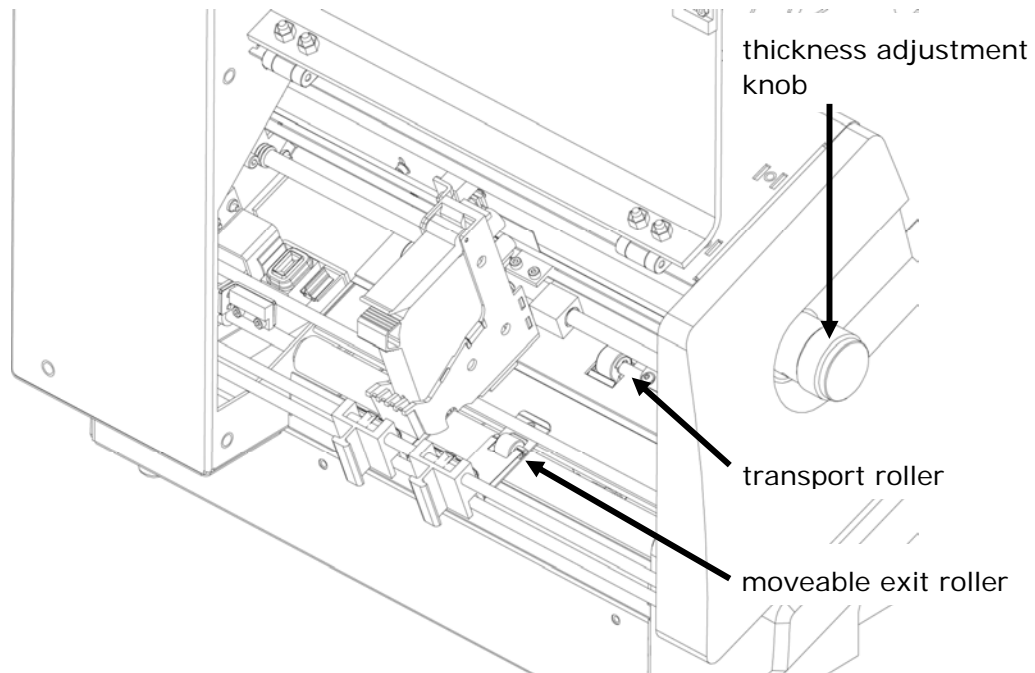

Figure 17: Adjusting the printer to the material thickness
- Put one medium underneath the transport rollers (see Figure 17).